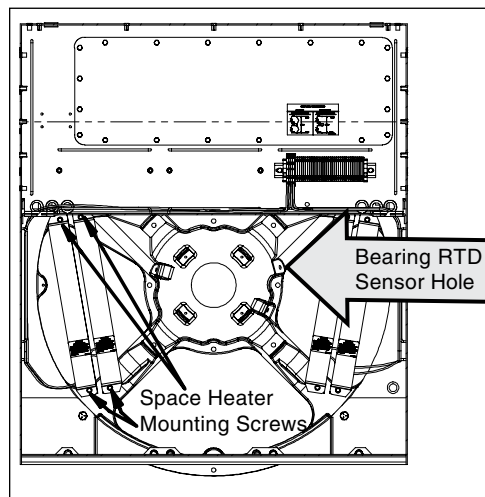
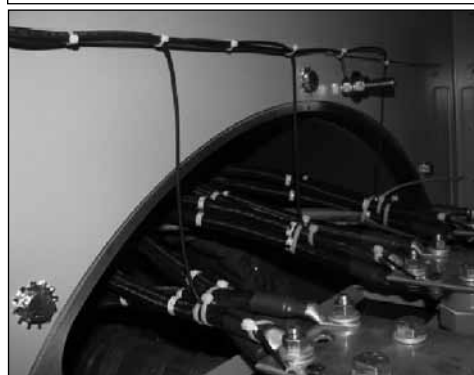

Figure 6-11
Figure 6-12
7. Remove two screws from each of the four space heaters to release them from the front bracket. (Figure 6-11)
9. Remove the bolts which hold the conduit box to the generator body (Figure 6-11 and Figure 6-12).